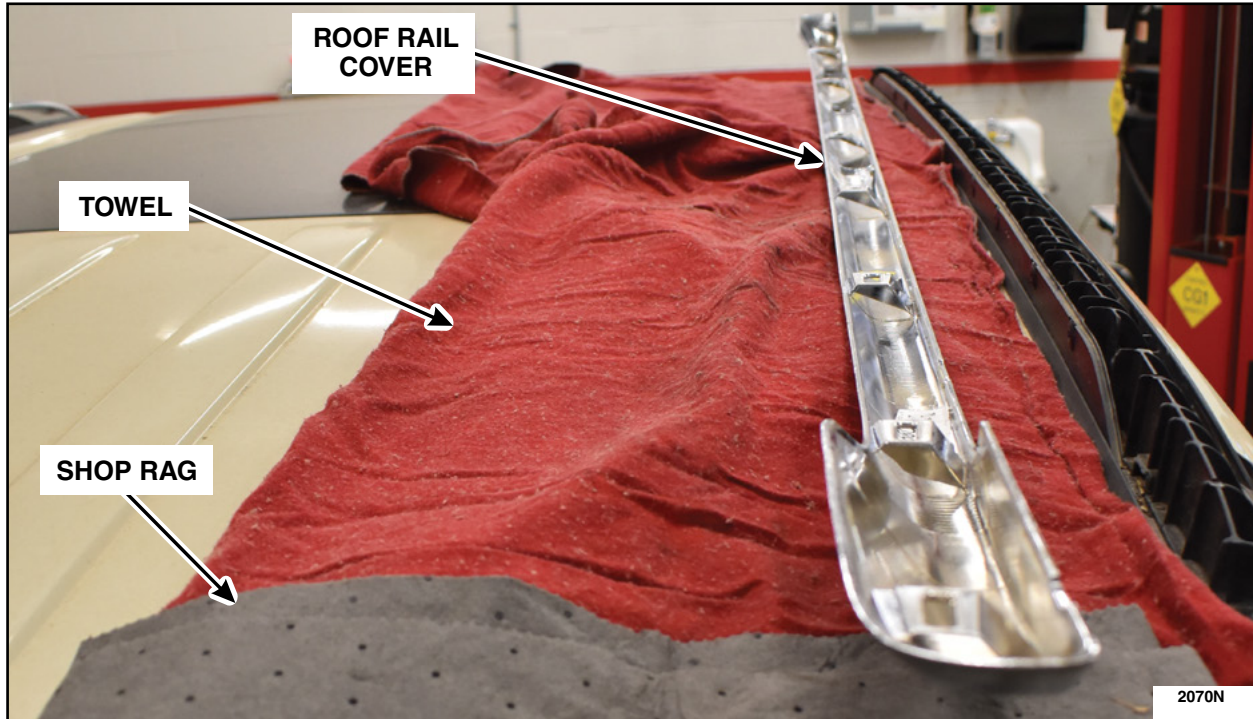

FIGURE 15
1. Place a towel and a rag on the roof of the vehicle. Place the roof rail cover on the towel. See Figure 15.